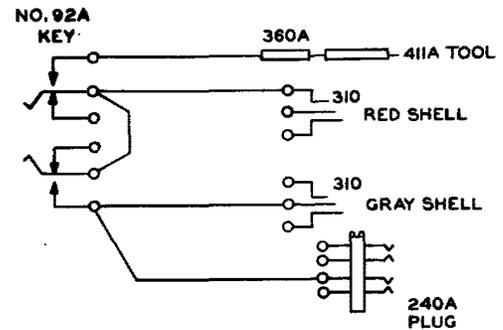

Fig. 1
2.11 Special test cord, connected as in Fig. 1, consisting of one 92A key, one 1W13B cord with one No. 360A tool removed and a No. 411A tool attached to the remaining No. 360A tool, one 1W7A cord with the No. 59 cord tip removed, one 1W5B cord with the KS-6780 connecting clip removed, and one No. 893 cord, 6 feet long, with a No. 240A plug connected to one end (for testing normal post spring operation of trunk finders).
10	Insert No. 310 red shelled plug of special test cord (Fig. 1) into battery supply jack located on trunk finder frame